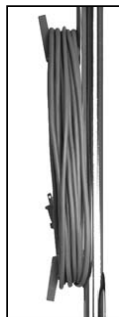

Fig 1.
3. Turn the upper cord storage hook to the upright position and wind the power cord around the cord storage hooks when storing the vacuum cleaner (Fig. 1).
1. Unplug the vacuum cleaner. Remove the used bag from the bag holder (Fig.1).